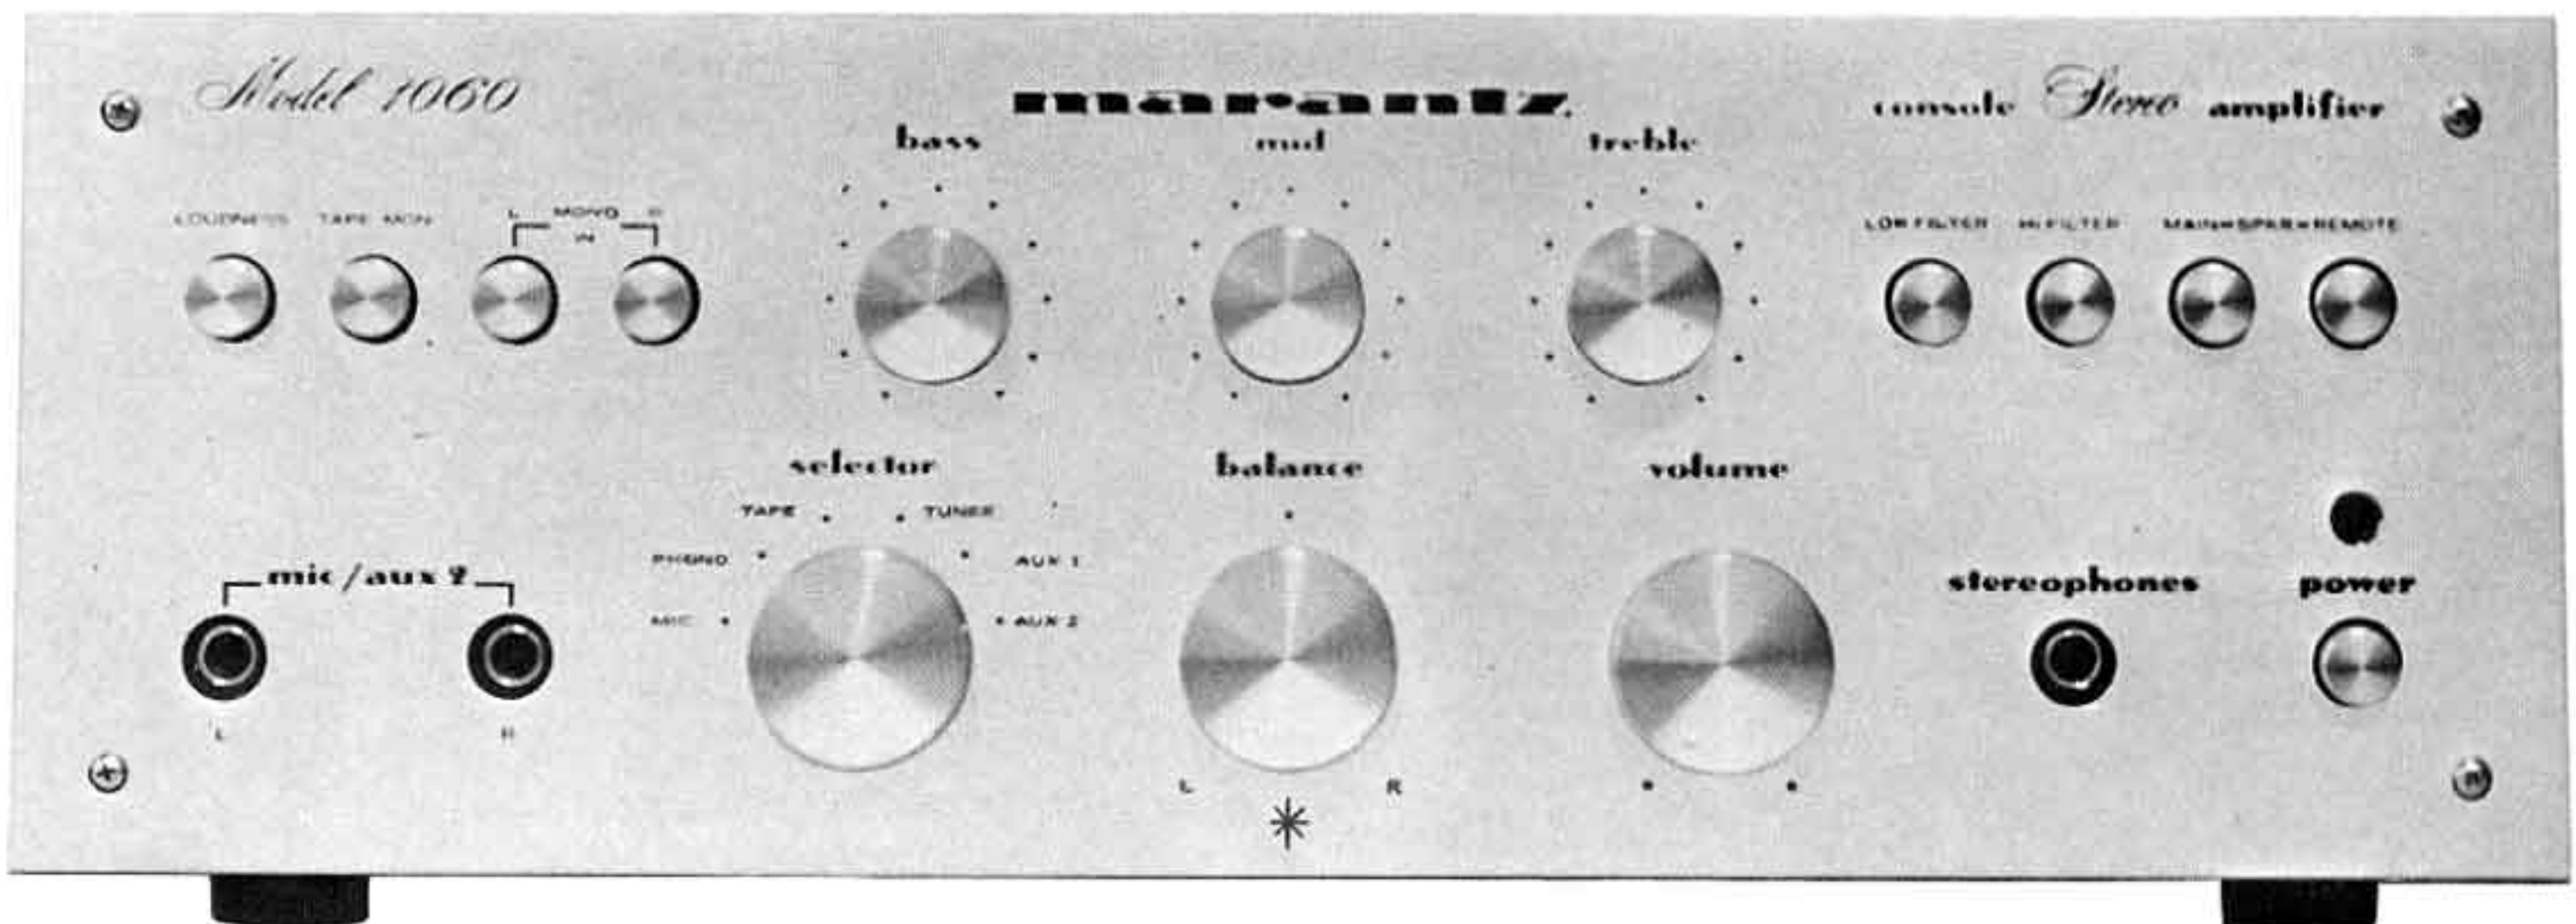

Figure 3. Front Panel Controls and Jacks
**Simplified Operating Procedures**—When operating the Model 1060 Stereo Console for the first time, follow these simple directions, using Figure 3. Later on, you can take full advantage of the instrument's versatility by learning to use the remaining controls and adjustments.